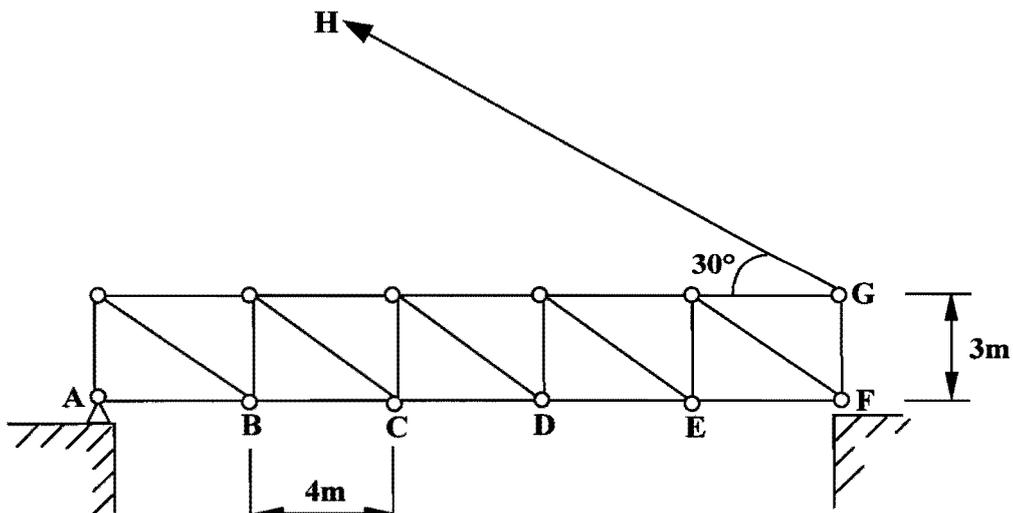

Figure 6
7. The self-weight of the regular truss shown in Fig. 6 may be represented by forces of 5 kN at each of the lower joints A-F. The truss is just lifted off its support at F by the rope GH. Determine the direction of the resultant reaction provided by the support at A, the axial force in the rope, the magnitude of the reaction at A, and the axial force in the member CD.